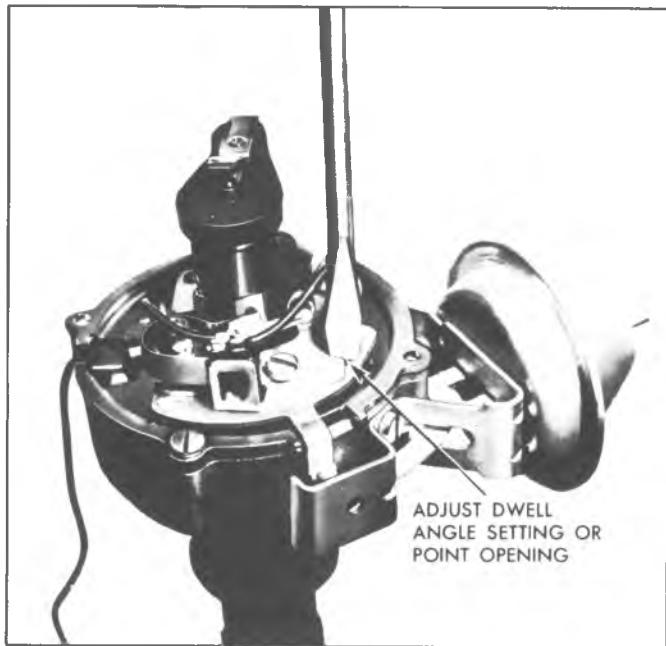

Fig. 18i—Setting Point Opening
4. Use a screw driver (fig. 18i) to move the point support to obtain .019" opening for new points and a .016" opening for used points.